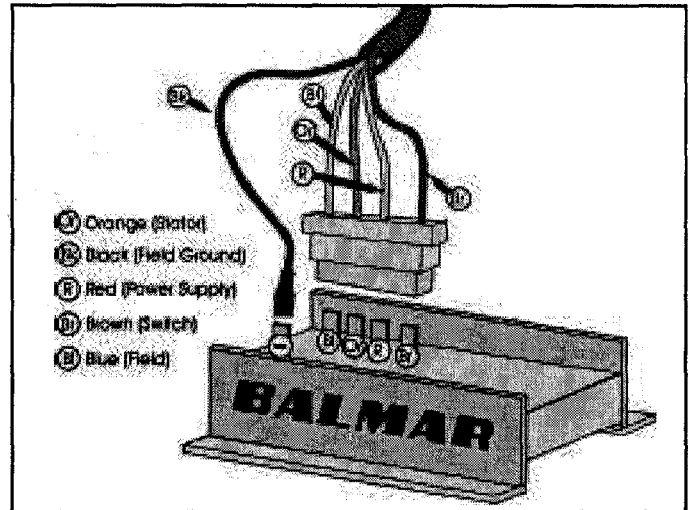

Figure 1 - Regulator wiring attachment.
2. Attach the Ford-type harness plug to the regulator (see **Figure 1**).